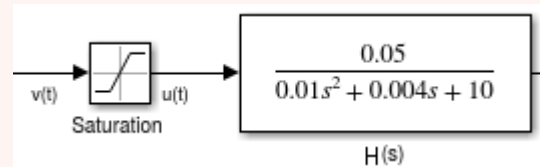

Figure 3.
4. In the real life, an actuator cannot execute arbitrarily large input signal, e.g. a voltage source cannot generate arbitrarily high voltage. Therefore, before we connect the design control input computed by $C(s)$ to the plant $H(s)$, we should limit the range of the input signal to the interval $u(t) \in [-1000, 1000]$. In order to implement this you can use the “Saturation” block (Figure 3).